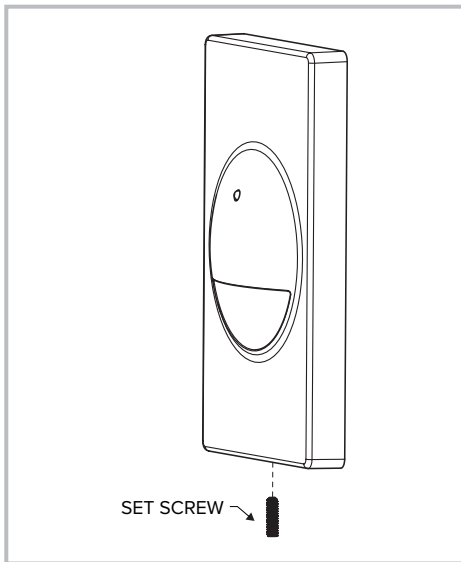

Figure 3: Removing the Face Plate
5. Use the supplied Allen Wrench tool to loosen the set screw on the bottom edge of the Face Plate until the Face Plate can be removed from the Back Plate. See **Figure 3**.